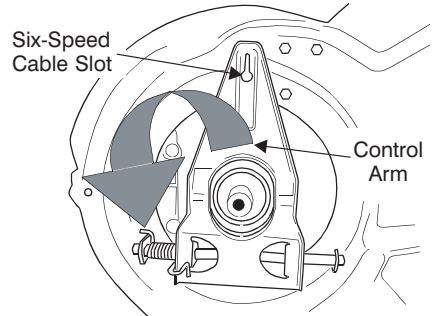

Figure 24
13. Pivot the control arm down away from the pulley and belt. See Figure 24.